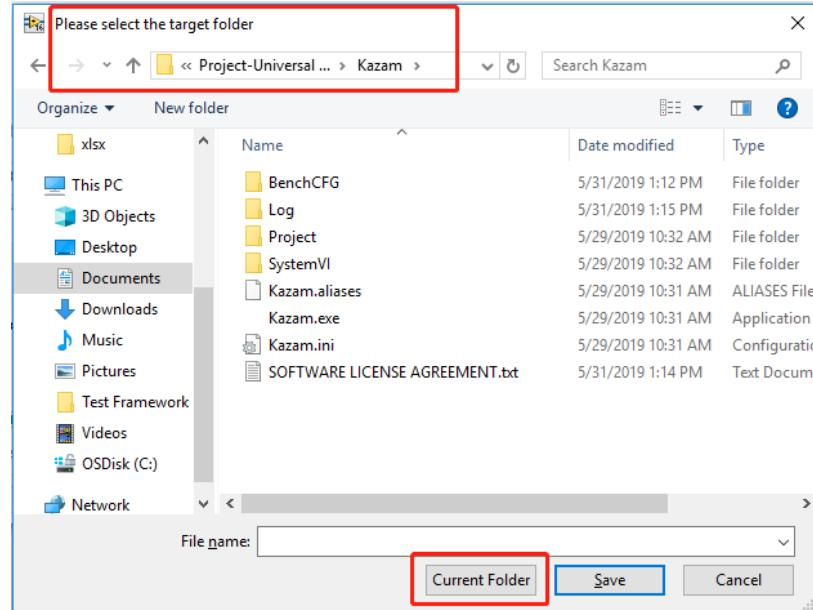

Figure 47
11. Select the target folder, it is the path of Kazam.exe folder, as Figure 47